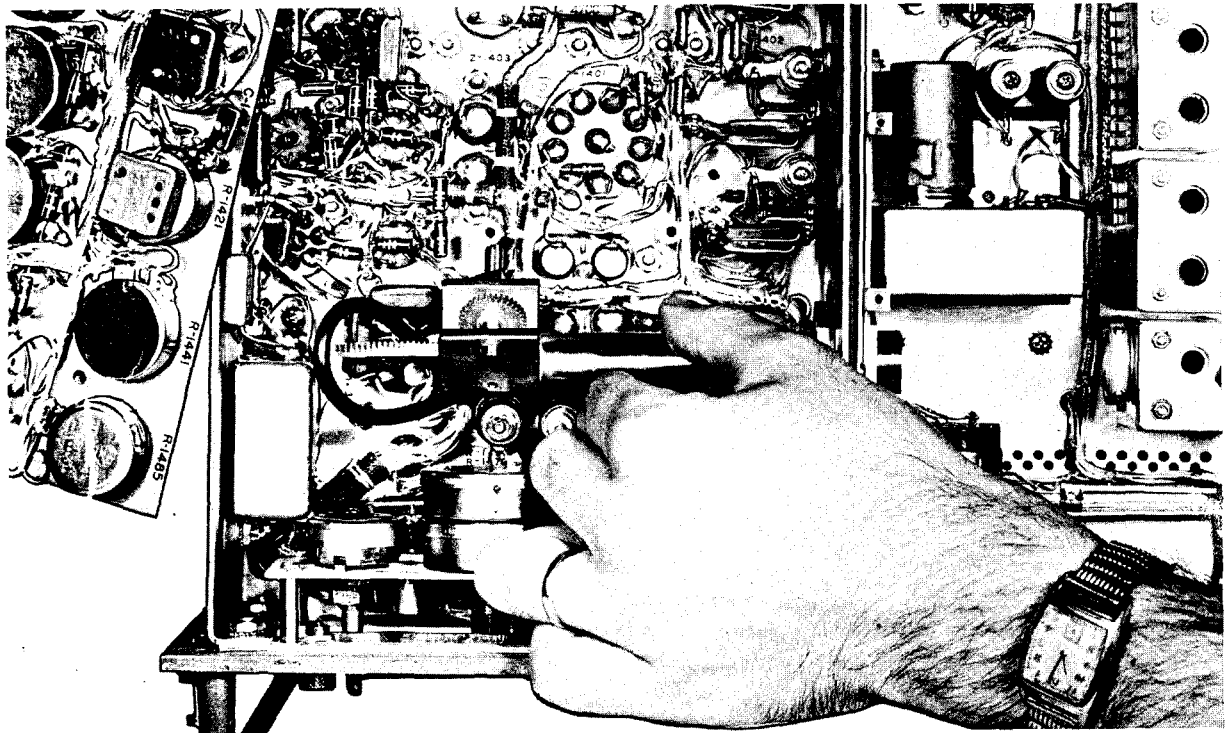

Figure 7-7. Signal Generator SG-13/ARN, R-F Attenuator Removal.
f. Slide the attenuator tube out of the collar and then carefully rotate the tube in the bushing, so that the shaft end of the assembly will clear components when withdrawn. The nuts securing two resistor stacks may have to be loosened to gain clearance. See figure 7-7.